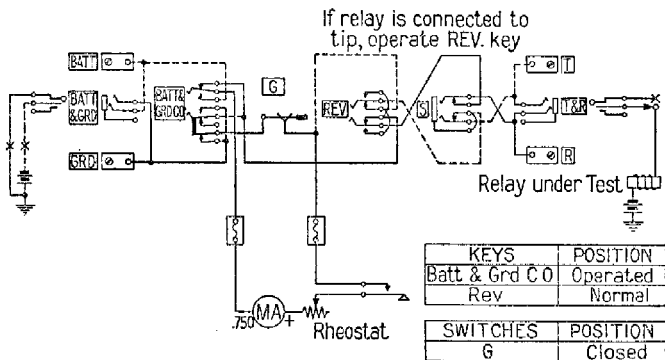

Fig. 3—Battery on Relay Winding
3.4 Figure 3 shows the test arrangement where one side of the winding of the relay is connected to battery. It should be noted that the REV key must be normal if the ring clip of the patching cord is connected to the relay or operated if the tip clip is connected to the relay.